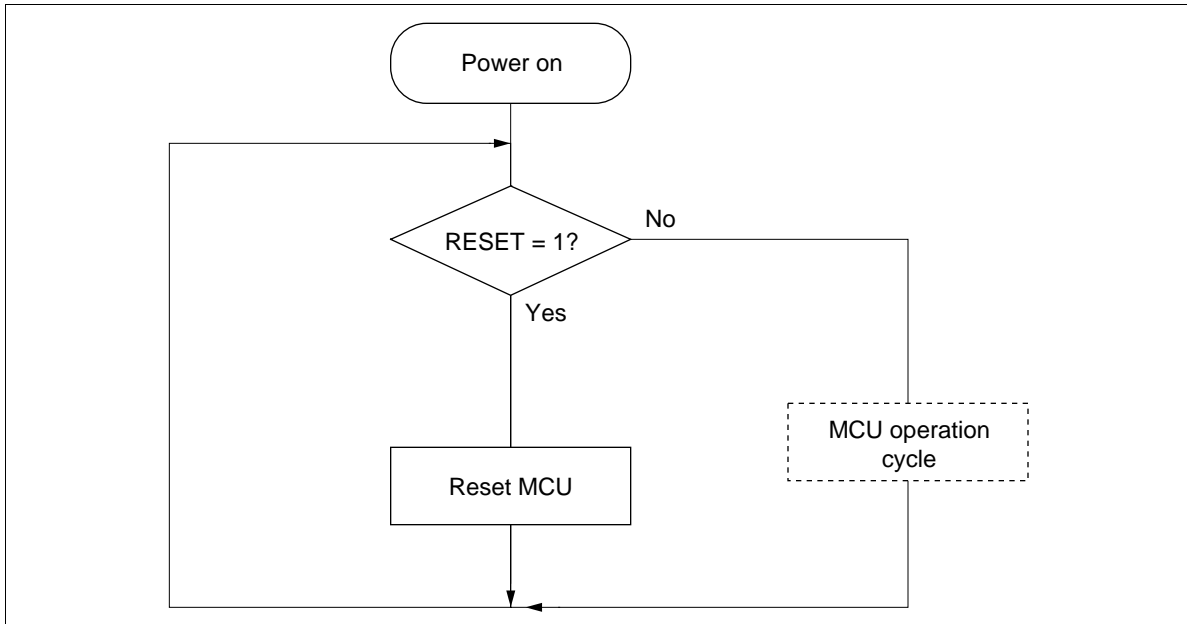

Figure 16 MCU Operating Sequence (Power On)
**MCU Operation Sequence:** The MCU operates in the sequence shown in figures 16 to 18. It is reset by an asynchronous RESET input, regardless of its state.